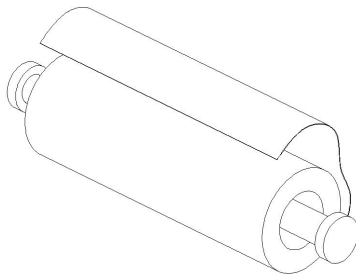

Figure 24: Roll Shaft & Print Paper
③ Remove the paper roll holder, and insert it into the designated paper roll as shown in **Figure 24**;